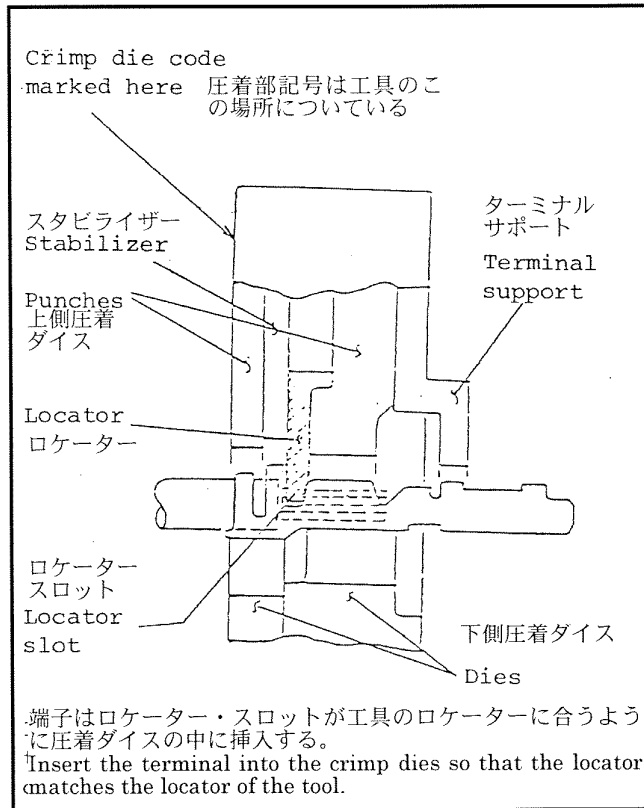

Fig. 3
- (b) Hold the tool so that the side of the tool on which the wire the wire sizes are stamped faces up. Insert the contact into the crimp dies as illustrated in Fig. 3.
(Refer to Fig. 3.)